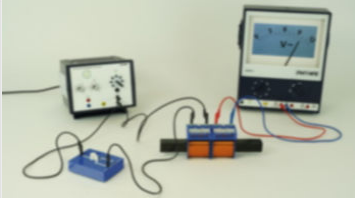

Fig. 3
- Now push the coils together again in contact. Open the switches and push the iron core into the two coils until it is approximately in the middle (see Fig. 3). Close the switches and observe the secondary voltage for different primary voltages.